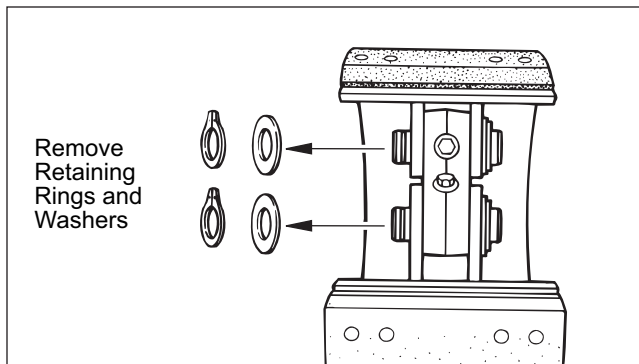

Figure 21. Retaining Ring and Washer Removal
7. Remove retaining ring and washer from drum side of both anchor pins. Refer to Figure 21.